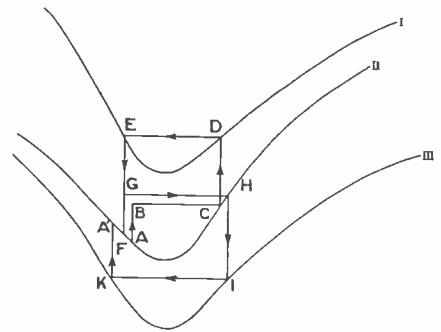

Fig. 4.
Let the polygon have three sides (I), (II), (III) (see Fig. 4). The curves corresponding to these sides are numbered (I), (II), (III). It is supposed that the numbers are small so that $\frac{\dot{v}}{v}$ is continuous at the passage. Also the point $v = 0$ is placed on the side (II). On II α is positive and on (I) and (III) α is negative.